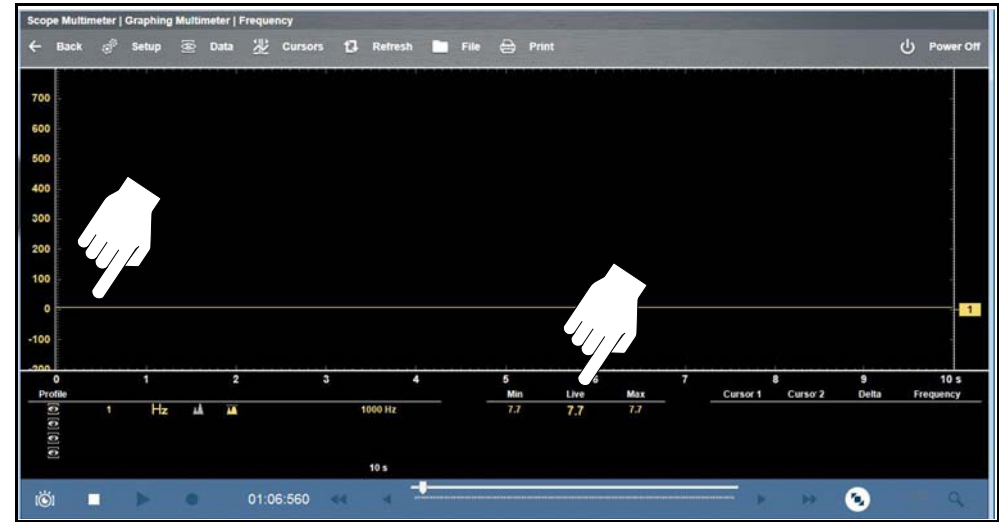

Figure 9-38 Scale at 1000Hz, frequency appears to be zero (is actually 7.7Hz)
If after enabling the Threshold function the signal is displayed as a flat line at zero (0) (Figure 9-38), reduce the vertical scale setting, as it may be set too high.